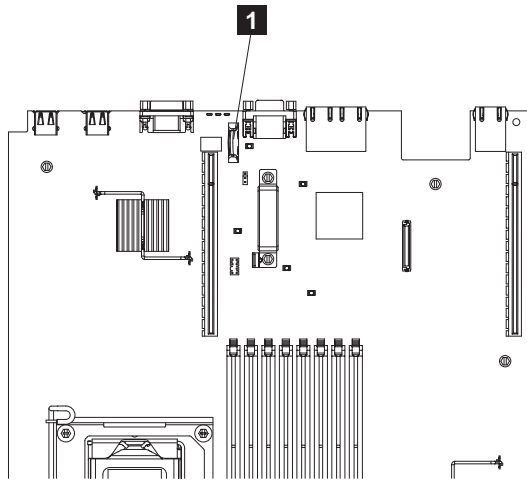

Figure 141. Location of the SAN Volume Controller 2145-CF8 CMOS battery holder
2. Locate the battery on the system board. Figure 141 shows the location (**1**) of the battery on the system board.